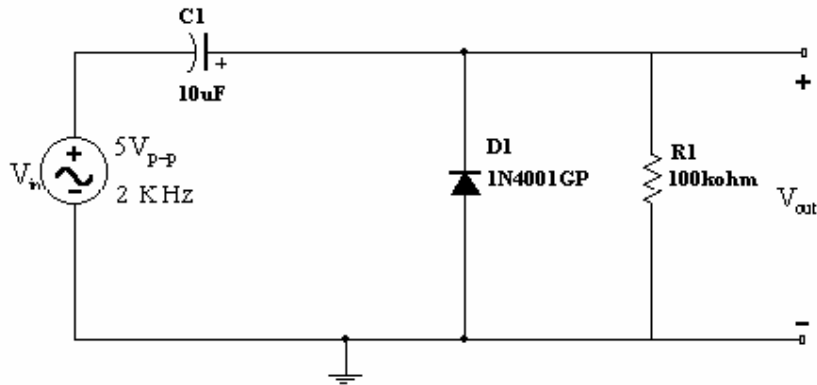

Fig.7: Clamper Circuit
13. Construct the circuit shown in Figure 7. Note the direction of the diode and the polarity of the capacitor. Use the oscilloscope to display the input and output signals. Channel 1 is connected to display V_{in} , and Channel 2 is connected to display V_{out} . Both channel inputs should be DC coupled.